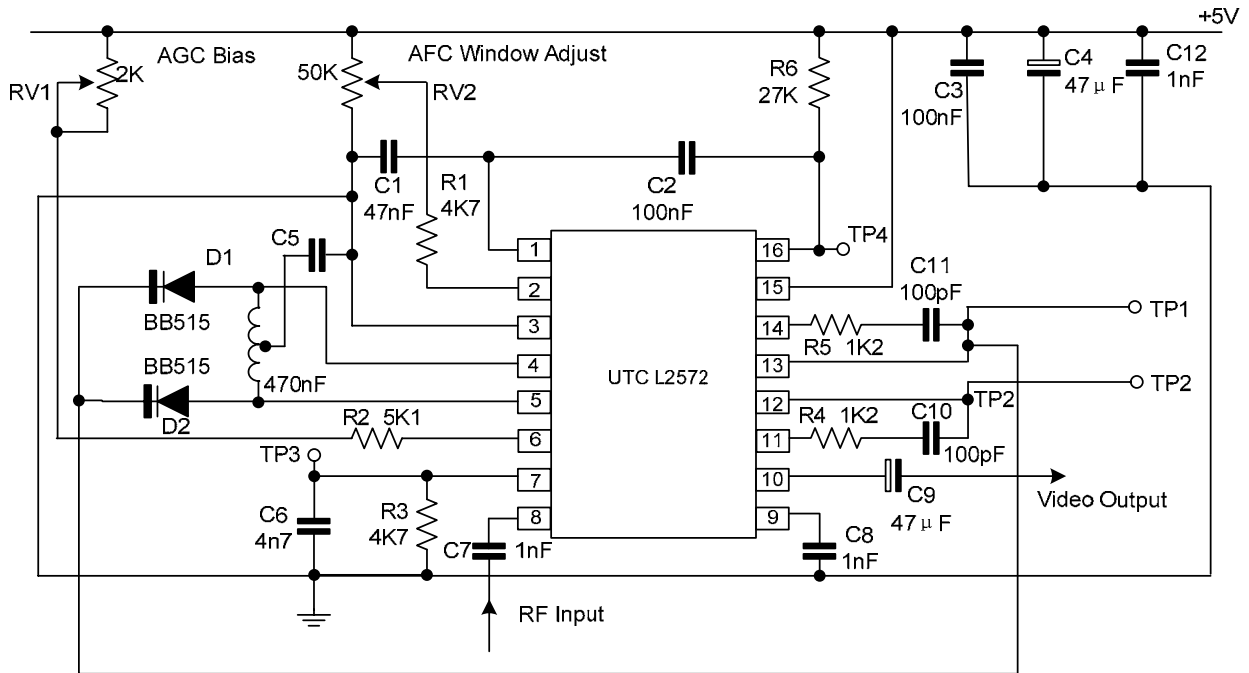
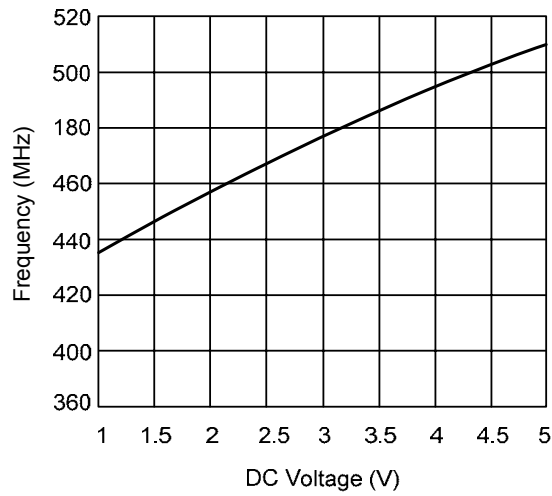
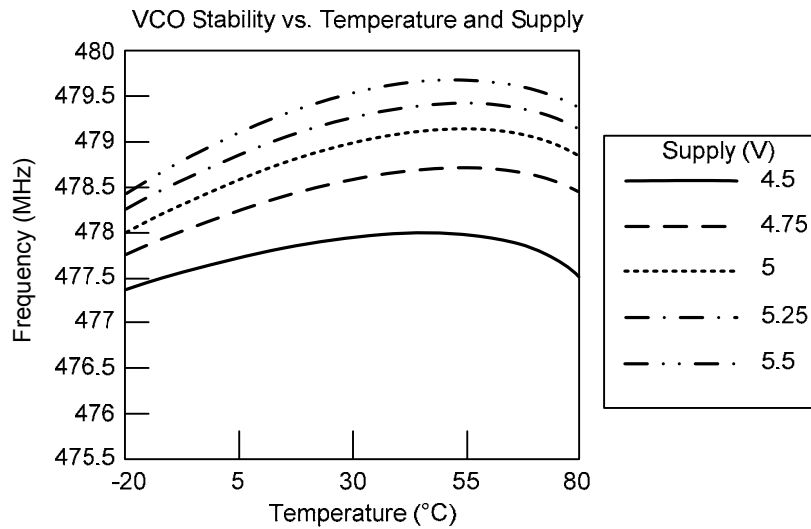

Fig. 1 Application Circuit
Fig. 3 Typical VCO Frequency vs. DC Control Voltage
Fig. 4 VCO Centre Frequency Uncompensated Temperature Stability
- Assuming ambient temperature of +20°C and operating frequency of 479.5MHz set with  $V_{CC}$  @ 5.0V. Only applies to application shown in Fig. 1 also refer to Fig. 4.
The UTC L2572 is optimized for application in satellite receiver systems and requiring a minimum external component count is a wideband PLL FM demodulator. It includes all the elements required to construct a phase locked loop circuit, with the exception of an AFC detector circuit for generation of error signal to correct for any frequency drift in the outdoor unit local oscillator, and tuning components for the local oscillator contains a block diagram and Fig. 1 contains the typical application.
The preamplifier's output is fed to the mixer section which is of balanced design for low radiation. In this stage the RF signal is mixed with which is generated by an on-board oscillator, the local oscillator frequency. The oscillator block is optimized for high linearity over the normal deviation range and uses an external varactor tuned sustaining network. Fig. 3 contains a typical frequency versus voltage characteristic for the oscillator. Fig.4 shows the typical stability that the loop output is designed to compensate for first order temperature variation effects.